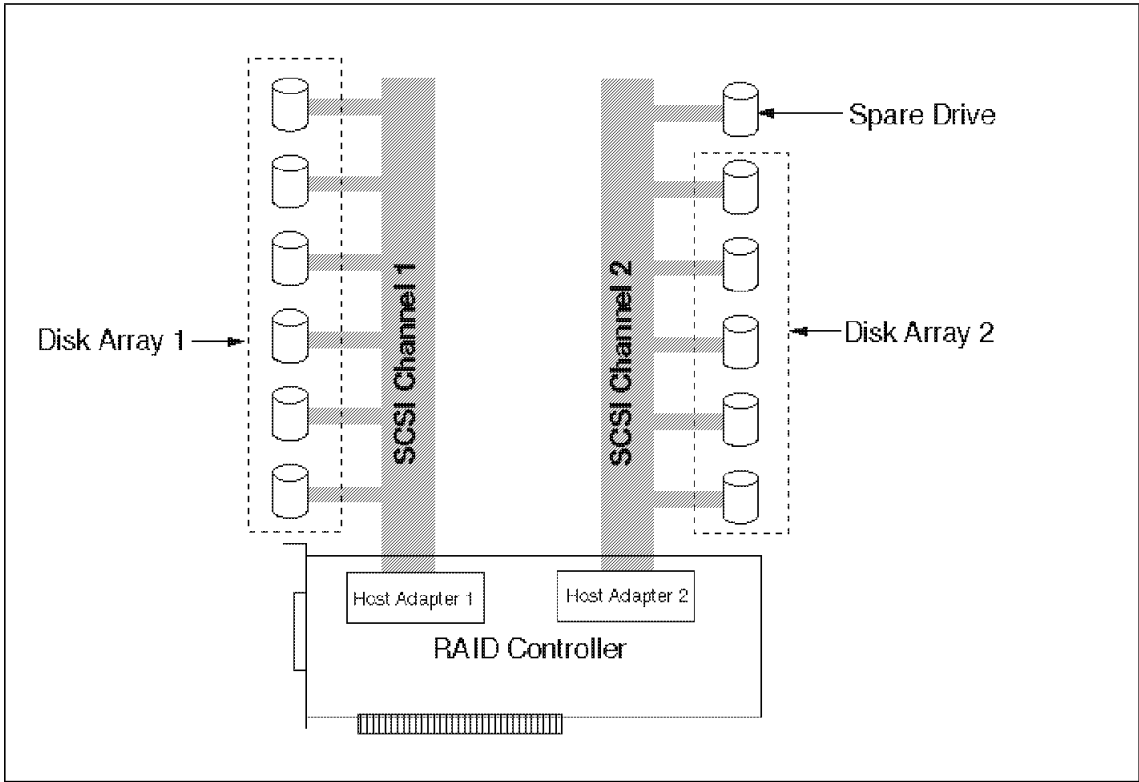

Figure 57. Disk Arrays on Separate SCSI Channels
- A maximum of 12 drives can be connected to one RAID controller, providing further disk subsystem expandability as shown in Figure 57 on page 164.